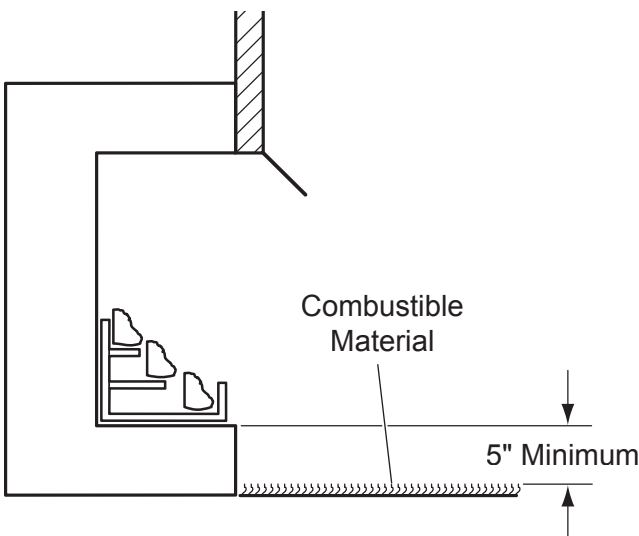

**Figure 5 - Mantel Clearances**
4. **Mantel clearances:** The canopy supplied with the unit must be installed. If a combustible mantel is installed, it must meet the clearance requirements as shown in *Figure 5*. However, if lower mantel height is desired, see *page 14* for canopy options.